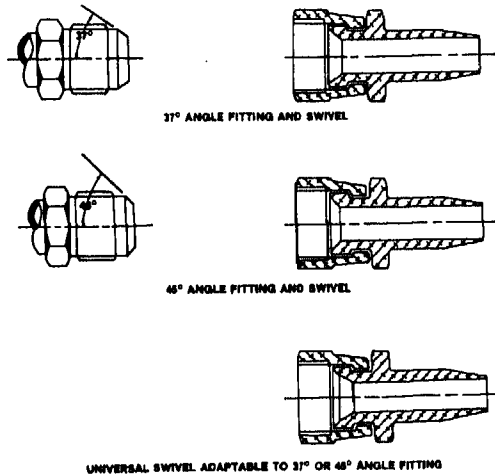

Fig. 6-2-1. Wire braid hose fitting and swivel angles
**Caution:** Note Fig. 6-2-1, which illustrates two different angle fittings used on Cummins wire braid hose. Failure to use proper combinations may cause air or fuel leaks.